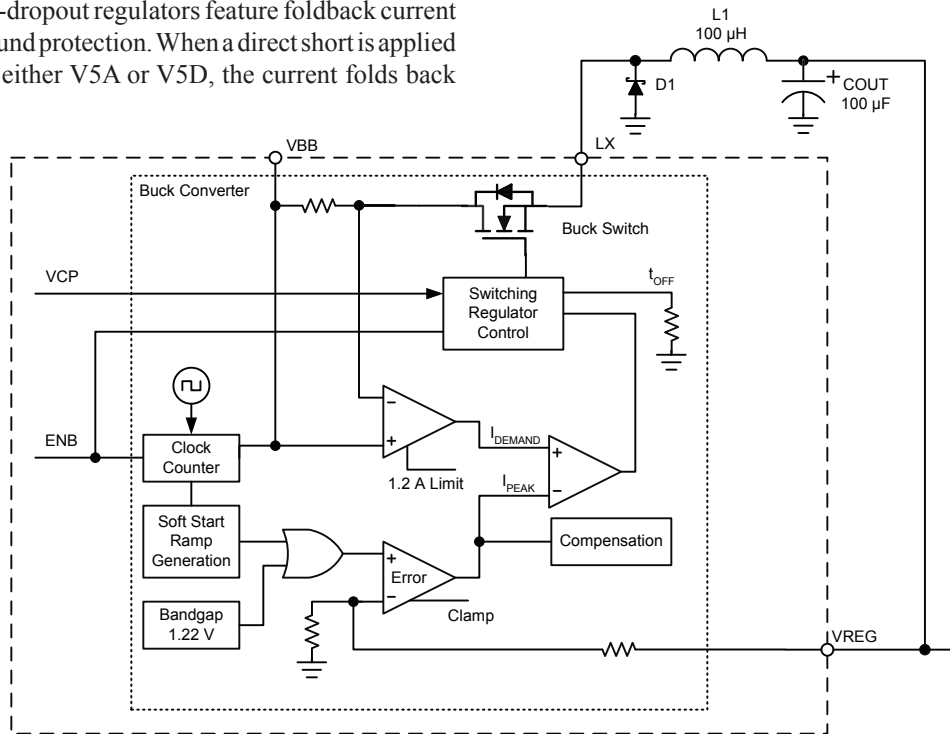

Figure 2. Buck converter with switching regulator
**Buck Converter with Switching Regulator.** A current-mode, variable frequency buck DC-to-DC converter and switching regulator are integrated in the A8450, as shown in figure 2. This feature allows the device to efficiently handle power over a wide range of input supply levels. The DC-to-DC converter outputs 5.7 V typical, and has an overcurrent limit of 1.2 A typical.